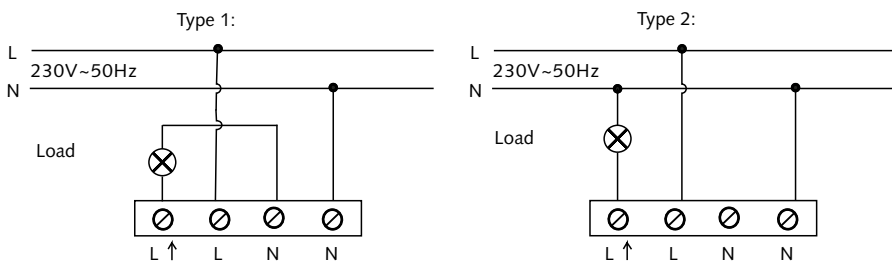

Fig. 5
Verify carefully and make sure the wires are connected correctly (See Fig. 5).
3. Cut the cable entry knock-out by a plier (See Fig. 7-A), and feed cables through cable entry knock-out and diagram (See please be noted sheathing (See Fig. 7-B). rubber gasket, then refer to wiring Fig. 5) to connect power cables, and to strip off 6 - 8 mm of cable